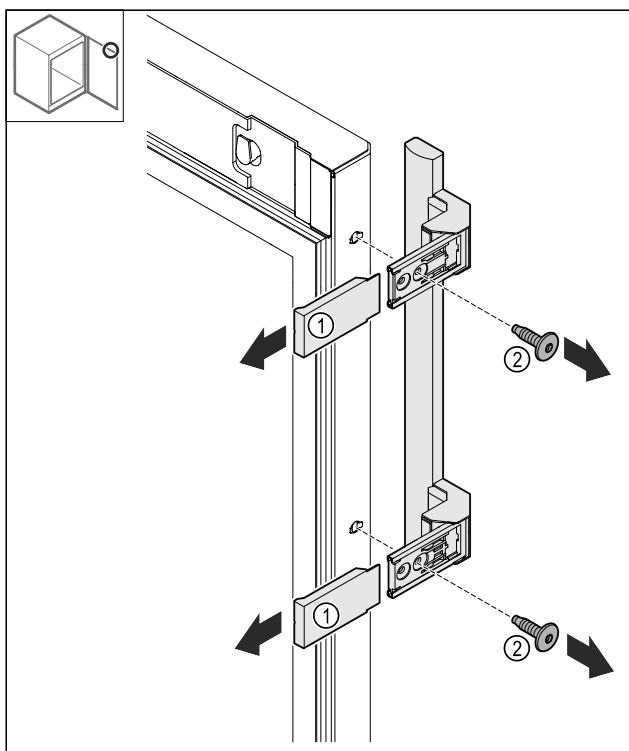

Fig. 18
- ▶ Remove the covers Fig. 18 (1).
- ▶ Loosen the screws Fig. 18 (2).